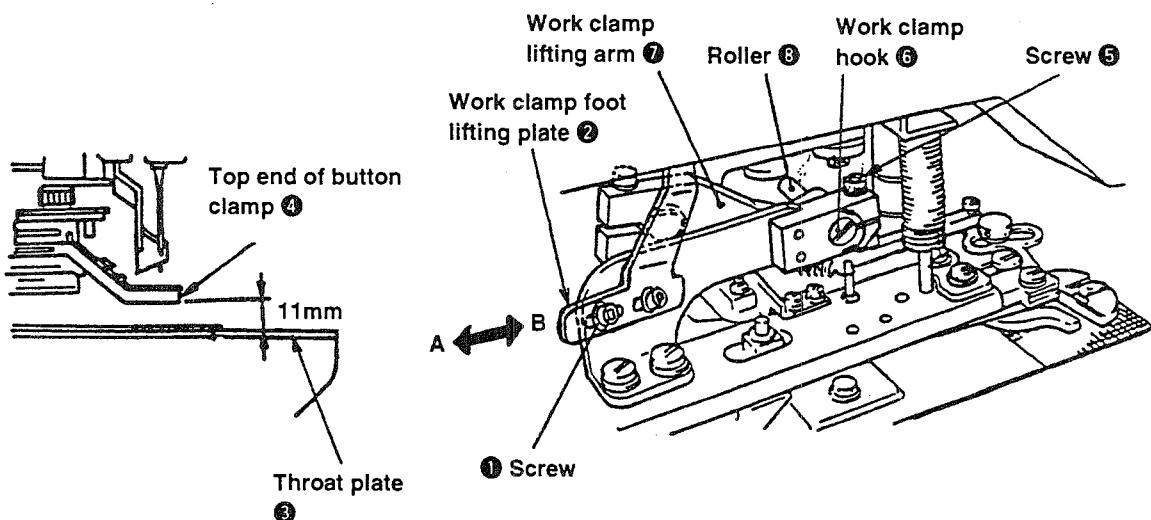
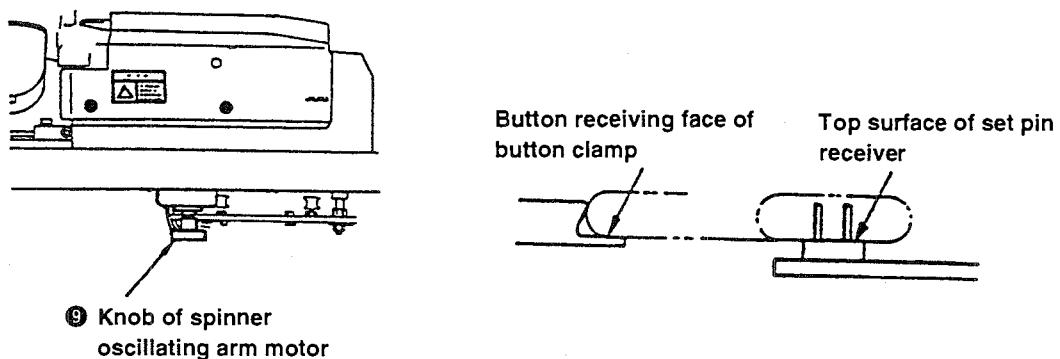

Fig. 1
Fig. 2
<p>(1) Select the pattern No. 99 using the operation panel.</p> <p>(2) Press the [Ready] key. Then the button clamp will go up and come to the position of the origin.</p> <p>(3) Press again the [Ready] key to let the sewing LED go out.</p> <p>(4) Loosen two screws ①, and move work clamp foot lifting plate ② back and forth in the direction of arrow to adjust so that the top end of button clamp ④ is 11 mm above throat plate ③. Move work clamp foot lifting plate ② in direction A to decrease the lifting amount, and move it in direction B to increase the lifting amount. (Fig. 1)</p> <p>(5) Turn knob ⑨ of the spinner oscillating arm motor, and confirm that the button receiving face of button clamp is almost flush with the top surface of set pin receiver. (Fig. 2)</p> <p>(6) Turn knob ⑨ of the spinner oscillating arm motor, and when work clamp lifting arm ⑦ has stopped its lifting once, loosen screw ⑤ and turn work clamp hook ⑥ which has an eccentric shaft to adjust so that a clearance of 0 to 0.5 mm is provided between roller ⑧ and work clamp lifting arm ⑦. (Figures.1 and 3)</p> <p>(7) After the adjustment, check that the buttons are securely supplied to the button clamp.</p>	<ul style="list-style-type: none"> • There is a case that the lifting amount of the button clamp may be more or less than the standard adjustment value in accordance with the shape of button.